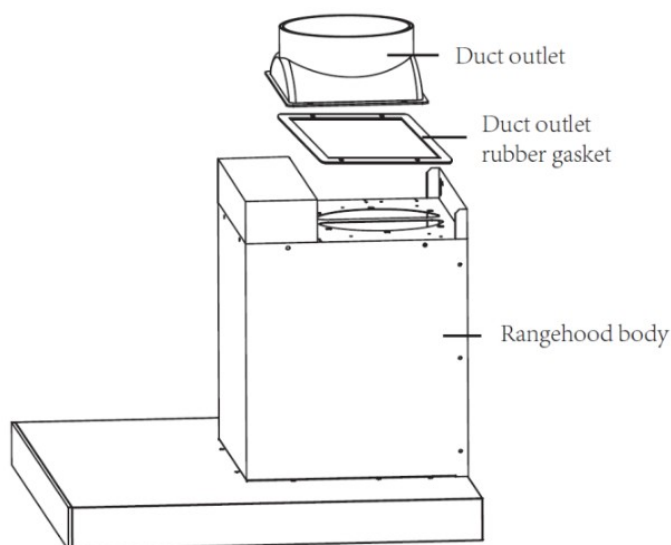

Fig. 2
1. Place the duct outlet rubber gasket and duct outlet over the top of rangehood body as per below, Fig 2.